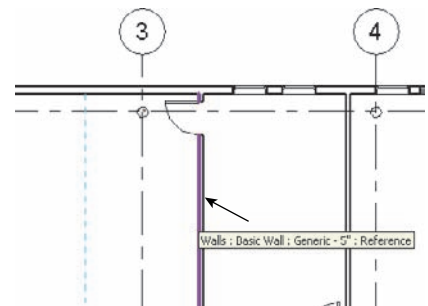

Figure 3.51
6. Move your mouse pointer over the wall to the right of grid line 3 between grid lines A and B until you see the dashed blue alignment line appear to the left of grid line 3, as shown in Figure 3.51.